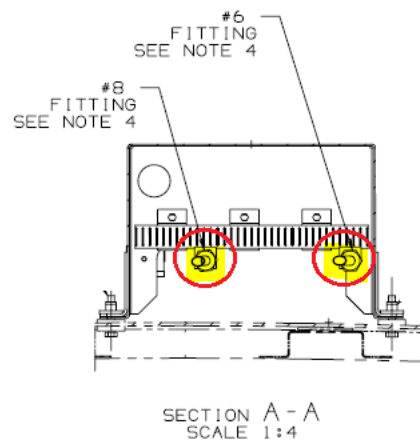

Figure 11: Rear Facing Section View of the Battery Chiller
43. Verify the #8 fitting on the left side of Figure 11 below is torqued to 17.5 ft-lbs dry.
⚠ WARNING: Figure 11 below is facing the rear of the bus
44. Verify the #6 fitting on the left side of Figure 11 below is torqued to 12 ft-lbs dry.